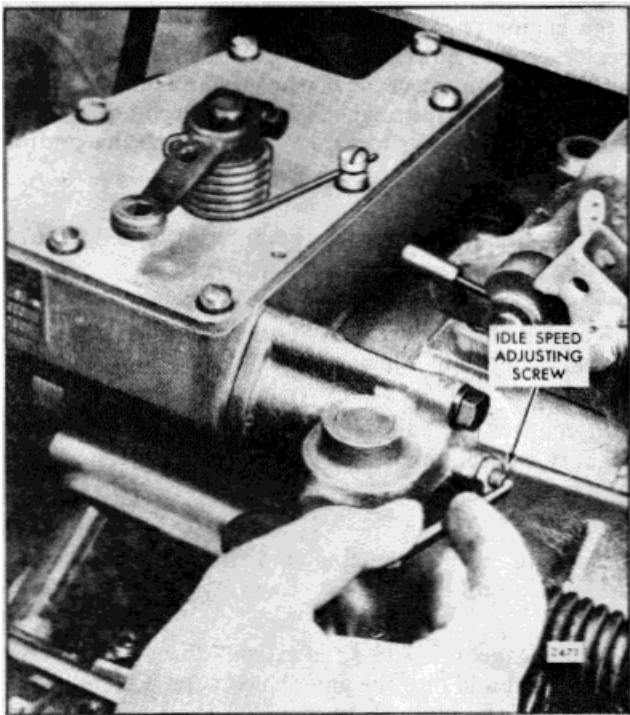

Fig. 5. - Adjusting Idle Speed
3. Loosen the locknut and turn the idle speed adjusting screw until the engine is operating at approximately 15 rpm below the recommended idle speed (Fig. 5). The recommended idle speed is 500 rpm, but may vary with special engine applications.